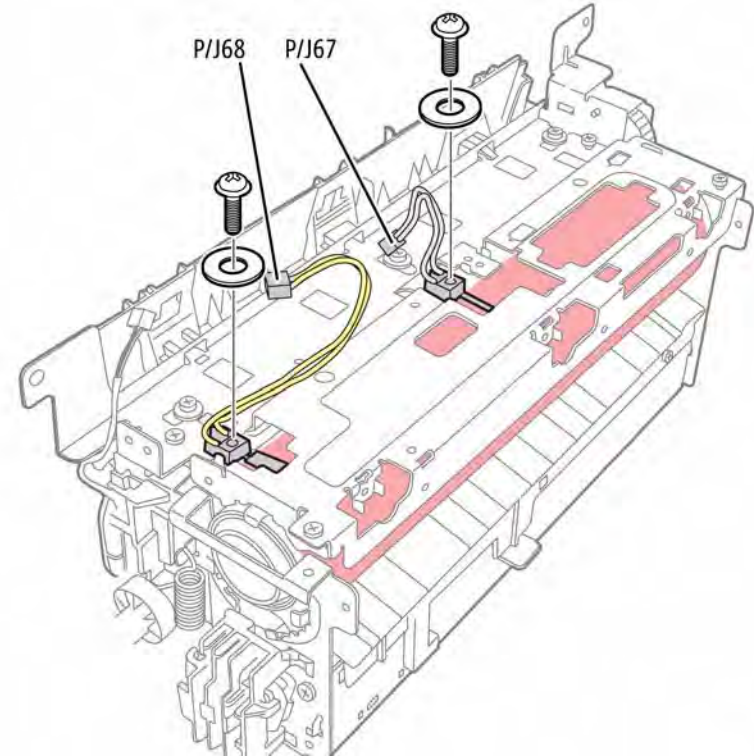

Figure 8 Disconnect Heat Roller thermistors
10. Disconnect the Heat roller thermistors (P/J67 and P/J68) and release the wiring from the thermostat holder guides, Figure 8.